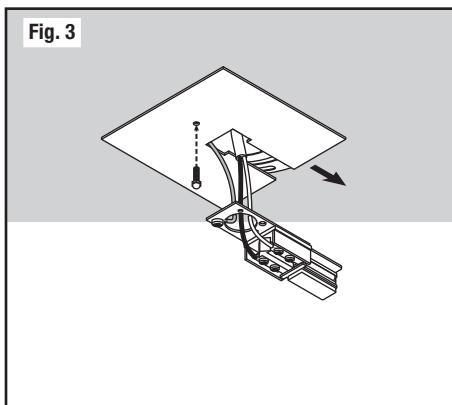

Fig. 3
8. Place the canopy over the universal mounting bracket and secure in place with supplied nut-head screw. (Fig. 3)